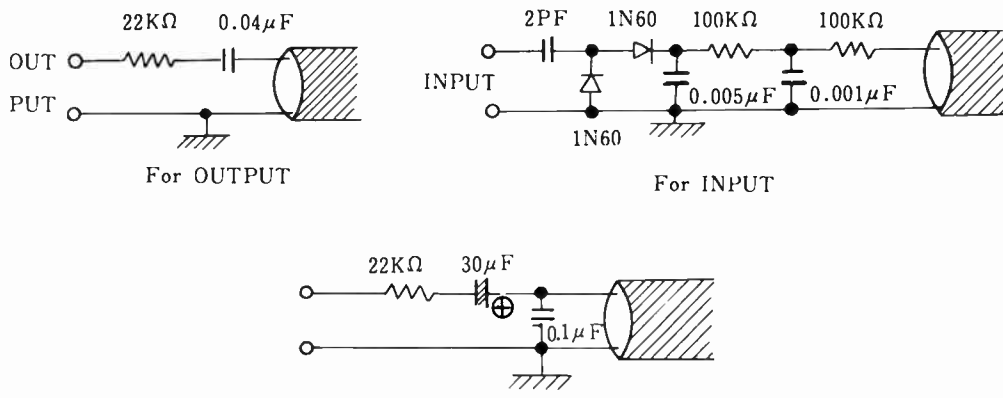

Fig. 1 For INPUT (S curve)
- f. The probe for input or output of IF sweep generator should be connected as Fig.1.